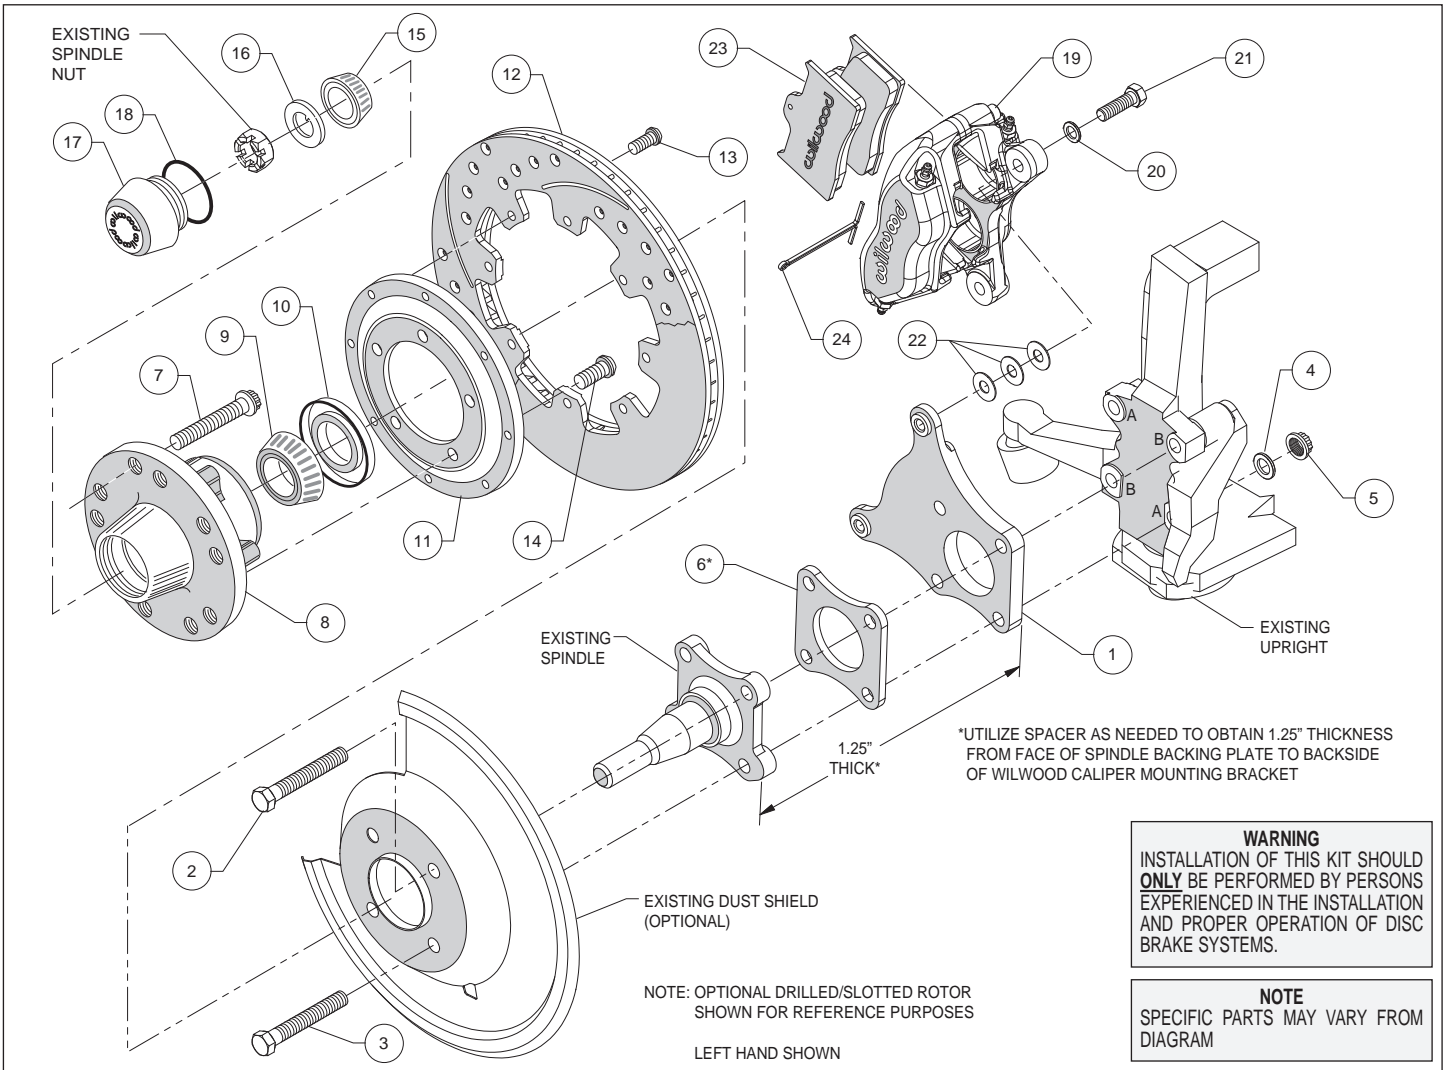
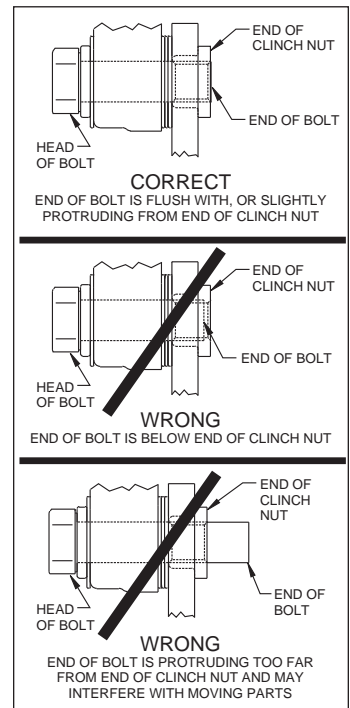

Figure 1. Typical Installation Configuration
Figure 3. Clinch Nut Engagement Diagram
Assembly Instructions (numbers in parenthesis refer to the parts list, on the preceding page and Figure 1): **CAUTION:** *All mounting bolts must fully engage clinch nuts.* Be sure to check that all bolts are either flush or protruding through flanged side of clinch nut after shimming, Figure 3.
- Align caliper mounting bracket (1) with the corresponding holes, between the upright and the spindle. Attach using bolts (2 and 3), washers (4), and locknuts (5) as shown in Figure 1 and Photo 1. Bolt (2) goes into holes on the upright designed with a "B" and bolt (3) goes into the "A" marked holes, Figure 1. Measure the thickness of the spindle and mounting bracket, Figure 1. If approximately 1.00", place spacer (6) between the spindle and mounting bracket to achieve the correct thickness. Temporarily tighten the mounting bolts. Ensure that the flanged heads of the clinch nuts in the bracket are facing outboard, Photo 1. **NOTE:** *The bracket must fit squarely against the mounting bosses on the upright.* Inspect for interference from casting irregularities, machining ridges, burrs, etc. Remove bolts one at a time, apply red *Loctite*® 271 to threads and torque to 47 ft-lbs.
- Install wheel studs (7) into the hub (8), Photo 2. Torque to 77 ft-lb. **NOTE:** *There are two five lug patterns in the hub (5 x 4.50 and 5 x 4.75).* Ensure the correct hub stud pattern is being used to fit the wheel application.
- Pack the large inner bearing cone (9) with high temperature disc brake bearing grease (available from your local auto parts store) and install into the backside of the hub (8), Photo 3.
- Install the grease seal (10) by pressing into the backside of the hub (8), flush with the end of the hub, Photo 3.
- Orient the rotor (12) and the rotor adapter (11) as shown in Figure 1 and Photo 4. Attach the rotor to the adapter using bolts (13). Using an alternating sequence, apply red *Loctite*® 271 to the threads, and torque to 25 ft-lb.
- Mount the adapter/rotor assembly (11/12) to the hub (8) using bolts (14), as shown in Figure 1 and Photo 5. Using an alternating sequence, apply red *Loctite*® 271 to the threads, and torque to 55 ft-lb.
- NOTE:** Please reference the caution statement at the beginning of the assembly instructions. Mount the caliper (19) onto the caliper mounting bracket (1) using bolts (21) and washers (20), as shown in Figure 1. Initially place three .035" thick shims (22) on each bolt between the caliper and the bracket, Photo 8. Temporarily tighten the mounting bolts and view the rotor (12) through the top opening of the caliper. The rotor should be centered in the caliper, Photo 9. If not, adjust by adding or subtracting shims between the bracket and the caliper. Always use the same amount of shims on each of the two mounting bolts. **NOTE:** The end of each bolt must be flush with or slightly protruding from the head of the clinch nut, as shown in Figure 3. If necessary place spare shims between washer (20) and caliper mounting ear to achieve the proper clinch nut engagement. Once the caliper alignment and clinch nut engagement are correct, remove the bolts one at a time, apply red *Loctite*® 271 to bolt threads, and torque to 40 ft-lb.